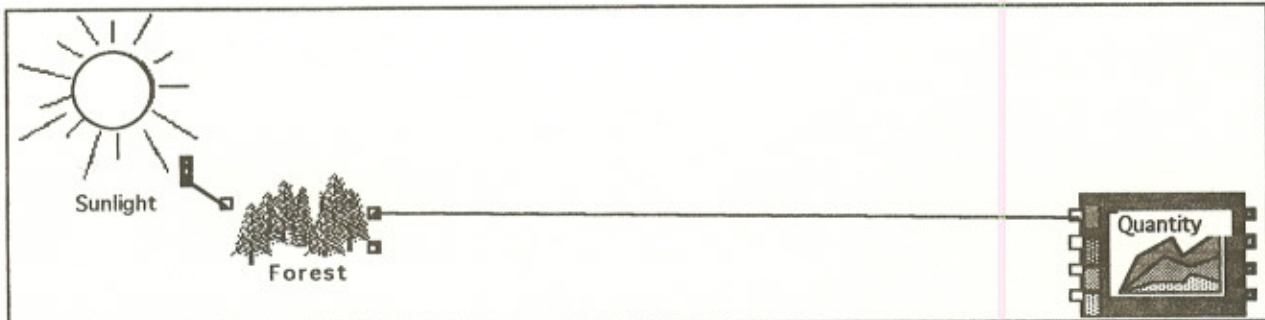

Figure 32. Model of sun and forest.
3. Connect them with the Sunlight on the left. Connect the biomass of the Forest to the plotter. Your screen should look like that in Figure 32.